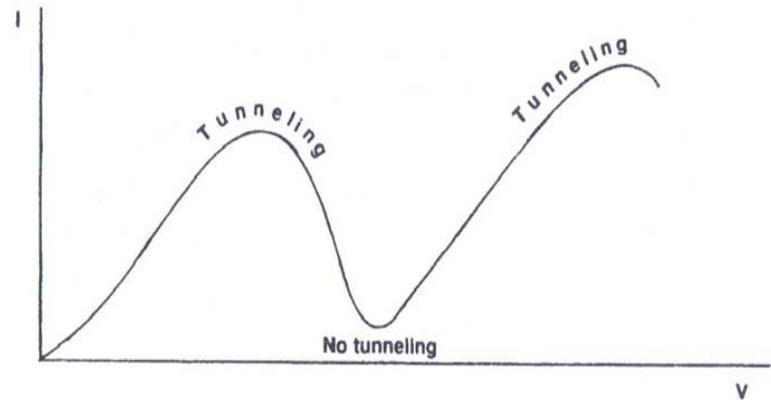

Figure 8.35. Current–voltage characteristic of a quantum dot device as depicted in Figs. 8.33 and 8.34.
- If a slightly higher voltage is applied, the electrons of the n-doped GaAs are no longer at par with an empty energy level and tunneling comes to a near standstill a I-V characteristic with negative differential resistance (Fig 8.35)